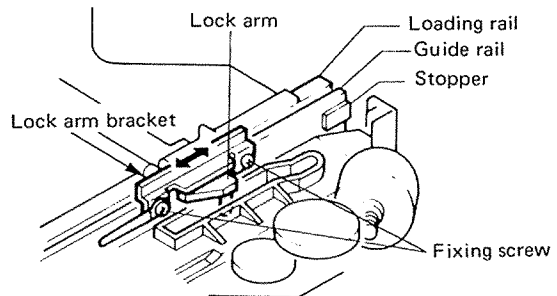

Fig. 9
5. How to mount LOCK ARM. (Fig. 9, 10, 11)